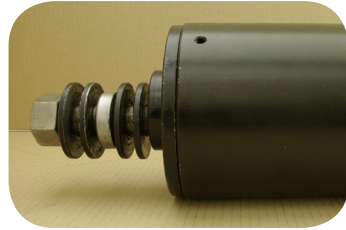

Fig. 2 · Assembled removal tool
Prior to removing the pivot bushing, assemble the removal tool correctly. For this purpose, place the following components onto the threaded rod (1) in the specified order (Fig. 2):
- 2 thrust washers (2)
- Thrust bearing (3)
- Cover plate (4)
- Receiver tube (5)